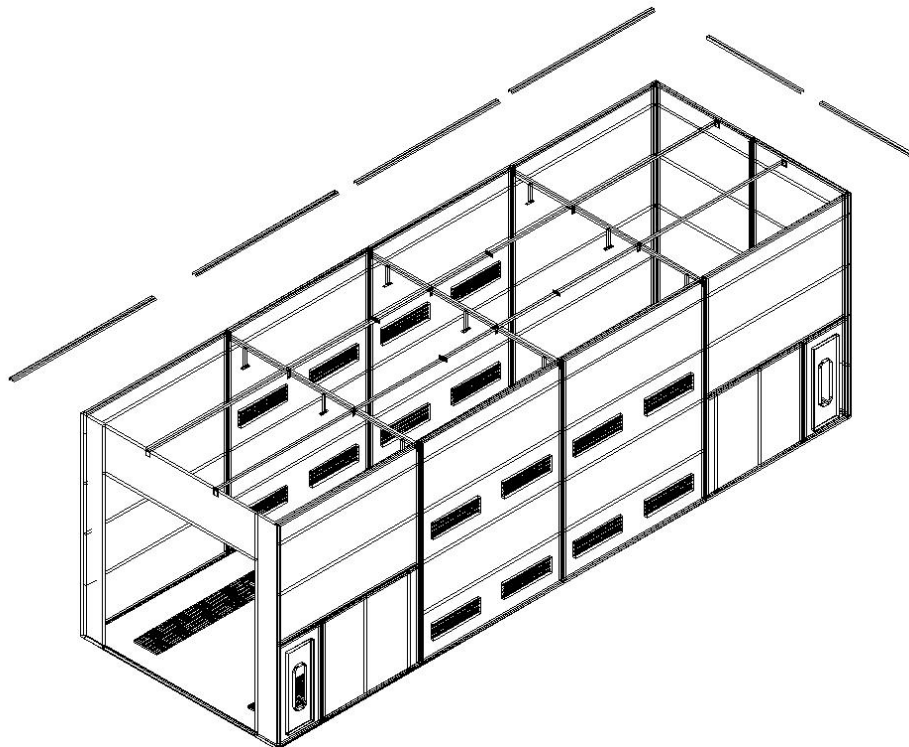

Fig. 2.7
- 2) Install other wall one by one, shown in Fig.2.7